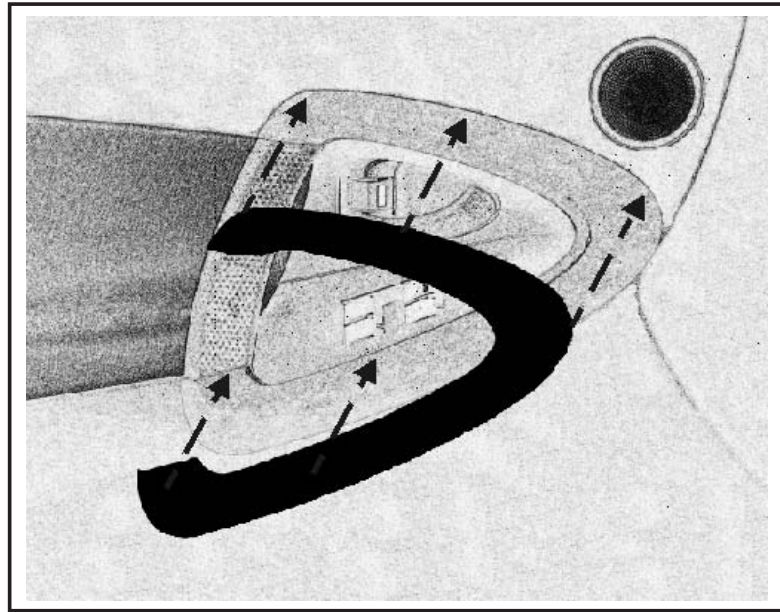

Fig. H1
- ⚠ A. Align part uniformly to edge of factory components. Edge of appliqué should be flush to edge of factory component, ±1.0mm. (Fig. H1).